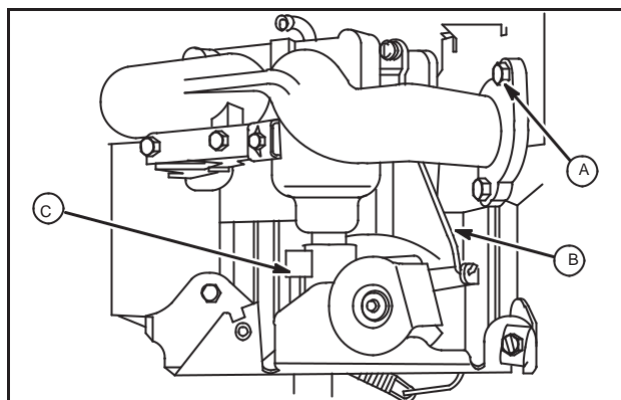

Fig. 21 – Install Intake Manifold And Carburetor
1. Install intake manifold and carburetor assembly, using new gaskets, Fig. 21.